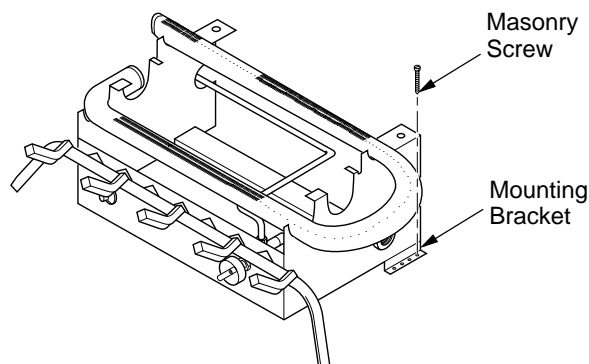

Figure 13 - Attaching Base Assembly to Fireplace Floor - Dual Burner Model
7. Mark screw locations through holes in mounting brackets (see Figure 13 and 14). If installing in a brick-bottom fireplace, mark screw locations in mortar joint of bricks.
10. Attach base assembly to fireplace floor using two masonry screws (in hardware package) (see Figure 13 or 14).